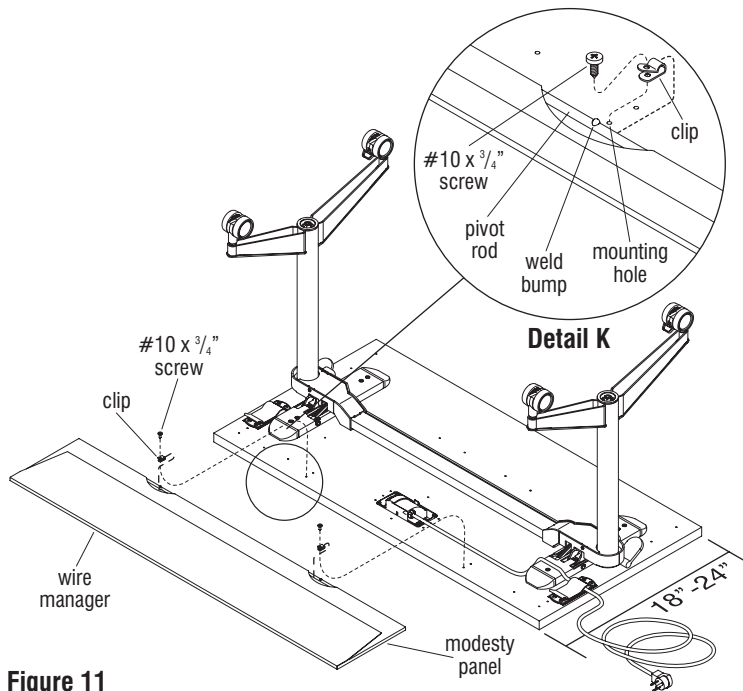

Figure 11
1. With table upside down on a soft, protective surface, position the modesty panel down near the back edge of the tabletop where it will install. The wire manager on the modesty panel should face up, and the notches exposing the pivot rod in the panel should face the back edge of the table as illustrated (Figure 11).
2. Locate the mounting clips and position them over the weld bump on the pivot rod as illustrated. The tabs with the mounting holes must face the modesty panel, or disassembly and reassembly will be required (Figure 11 & Detail K).
3. Move the modesty panel with clips up to align the mounting holes of the clips with the pre-drilled holes in the table. The mounting holes will be close to the edge near the wire trough mounting holes. Screw each clamp to the underside of the table with a #10 x 3/4" wood screw per clamp as illustrated (Figure 11 & Detail K).